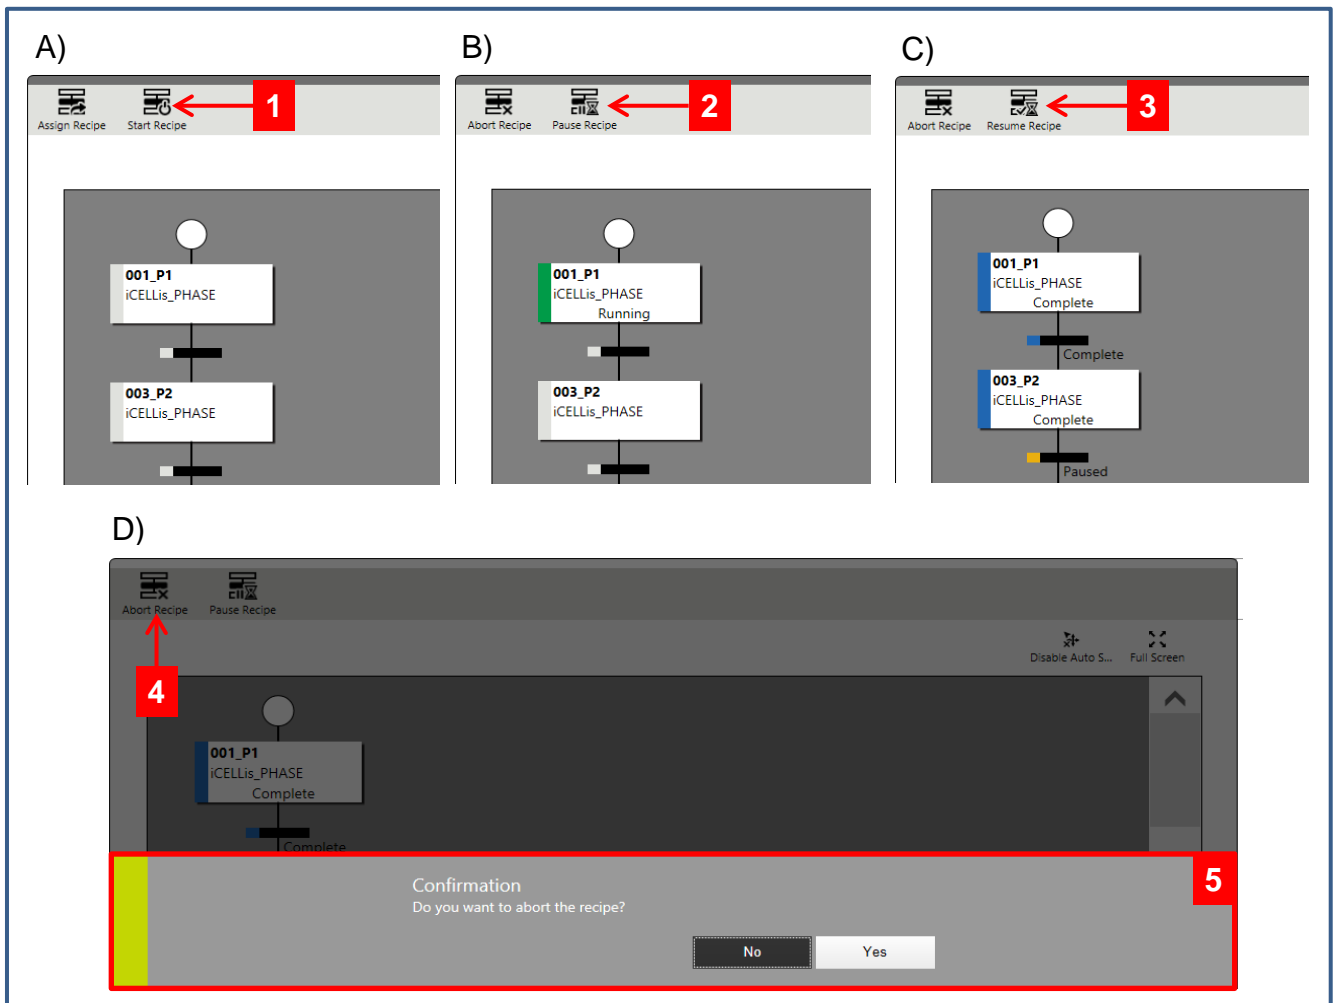

Figure 61: Recipe visualization window details for recipe starting, pausing, resuming and aborting –
To load a recipe, use the ASSIGN RECIPE button on top of Recipe Execution box (Figure 60-1). Available validated Recipes list is summoned for recipe selection and confirmation (Figure 60-2/3). The recipe is loaded in RMP Execution Box and becomes visible in the Recipe visualization window (Figure 61); loading can take a few minutes.
An assigned recipe can be initiated using the START RECIPE button (Figure 61-a1). The recipe then follows sequence of phases and transitions programmed. Displayed buttons are changed to ABORT RECIPE and PAUSE RECIPE.
- Recipe can be paused at any time with PAUSE RECIPE button (Figure 61-b2); In Pause mode the equipment will continue running with latest settings but the recipe will not go to the next step until the RESUME RECIPE button (Figure 61-c3) is used.
- Recipe can be aborted at any time with ABORT RECIPE button and confirming entry (Figure 61-d4/5). Aborting the recipe will end the recipe and all EM will go to standby mode.